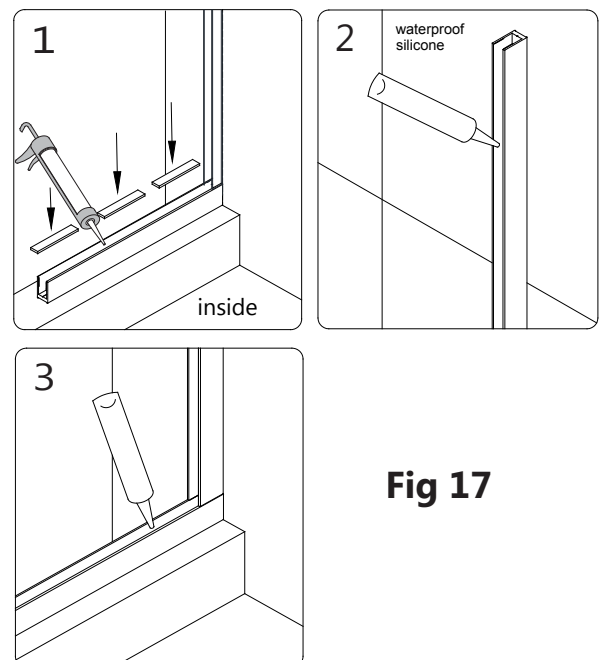

Fig 17
14. Add several 2" pieces of the **0.5mm Adjustment Spacers (#34)** into the **bottom U-channel** to protect the bottom and corners of the glass. Apply a good quality mildew-resistant silicone into both U-channels. (**Fig 17**)